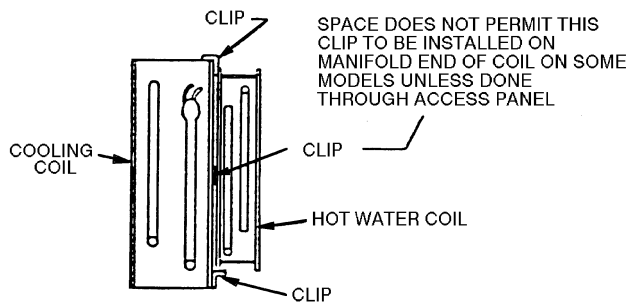

Fig. 9 — Securing Hot Water Coil
6. Secure hot water to cooling coil by fastening 2 clips over cooling coil and hot water coil end plates, (see Fig. 9).